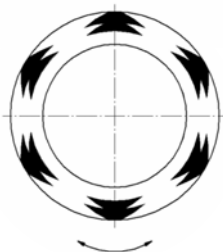

Figure 2
- Bi-directional groove pattern on Mating ring works effectively on either direction of the shaft rotation. Figure 2.